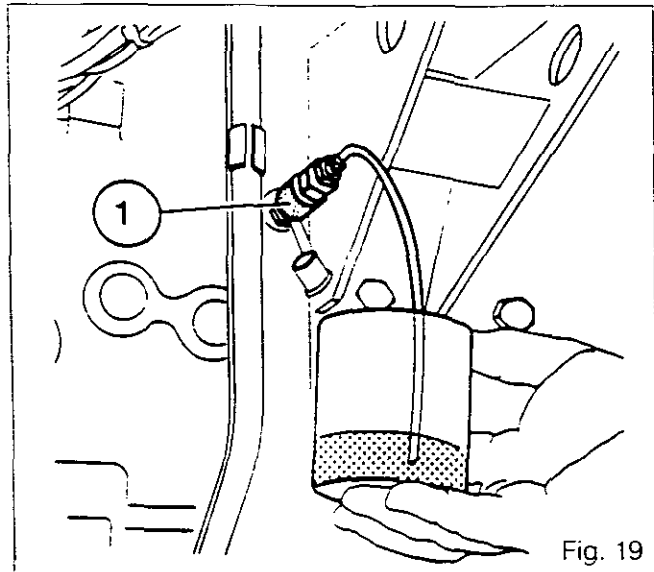

Fig. 19
2. Connect the union 3582045 M1 (1) together with its hose (Fig.19) to the bleed point (RH side of gear-box).